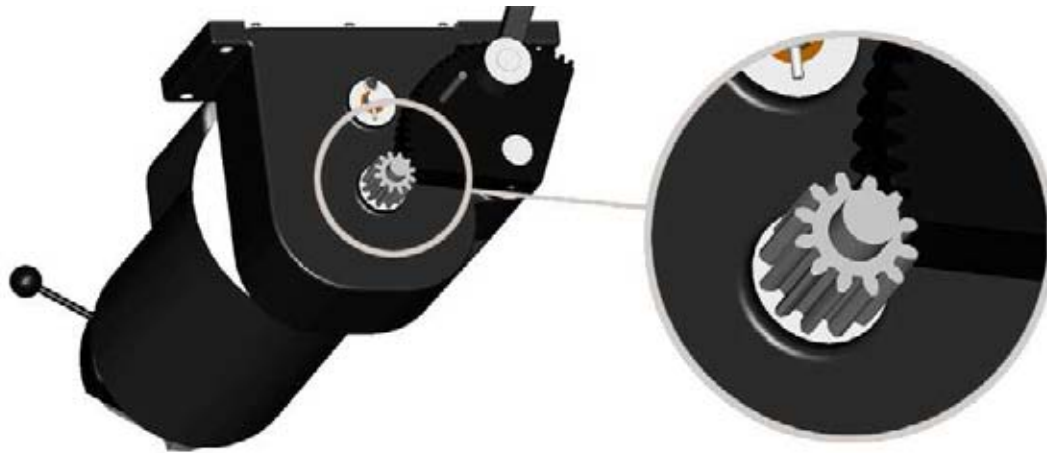

Figure 22
4. With the brake disengaged, move the gears in the directions shown in Figure 21. The smaller gear has a small stub on it which can be used to turn the gear using a pair of pliers or locking pliers if necessary. If the larger gear cannot be moved by hand, tap on it with a rubber hammer or carefully pry it with a long bar. Be very careful not to damage the gear teeth. Rotate the gears so that at least one whole tooth is engaged (Figure 22, page 25).